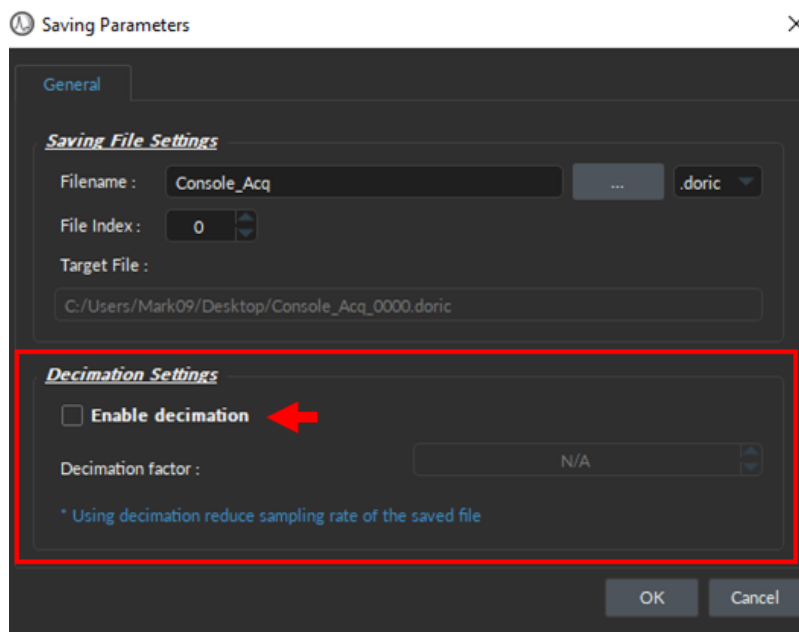

Figure 5.36: Enable/Disable the decimation factor that reduces Sampling Rate of the saved files
- **Note 1:** The saved file **effective sampling rate** is set to 5x the lowpass filter frequency, using a decimation factor (which can be disabled in Saving Options, see Fig. 5.36).